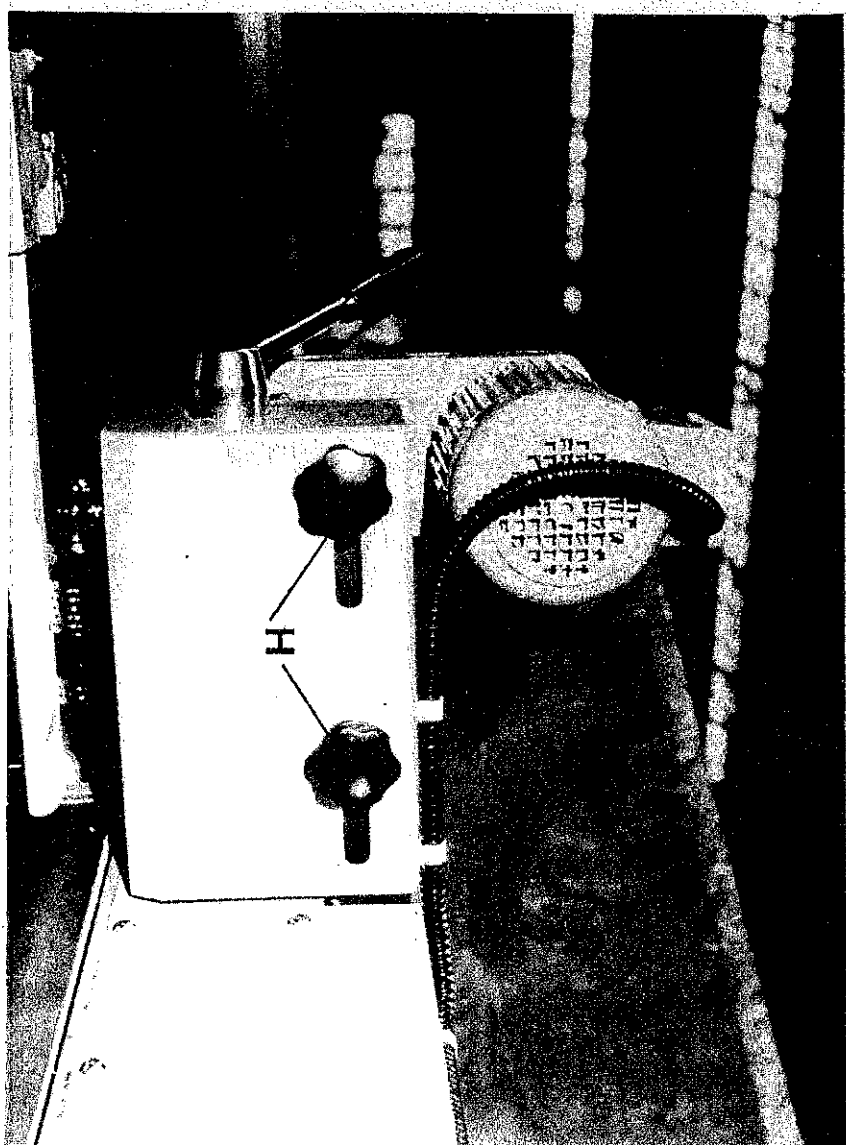

FIG.33
- b) Remove locking handwheels "H" and washers FIG.33 in planer feed unit.